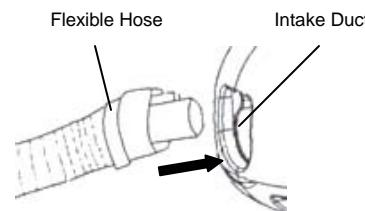

Fig. 1
- Insert the flexible hose into the air intake duct. Push in until you hear a 'click', indicating that flexible hose is locked into place. (Fig. 1)